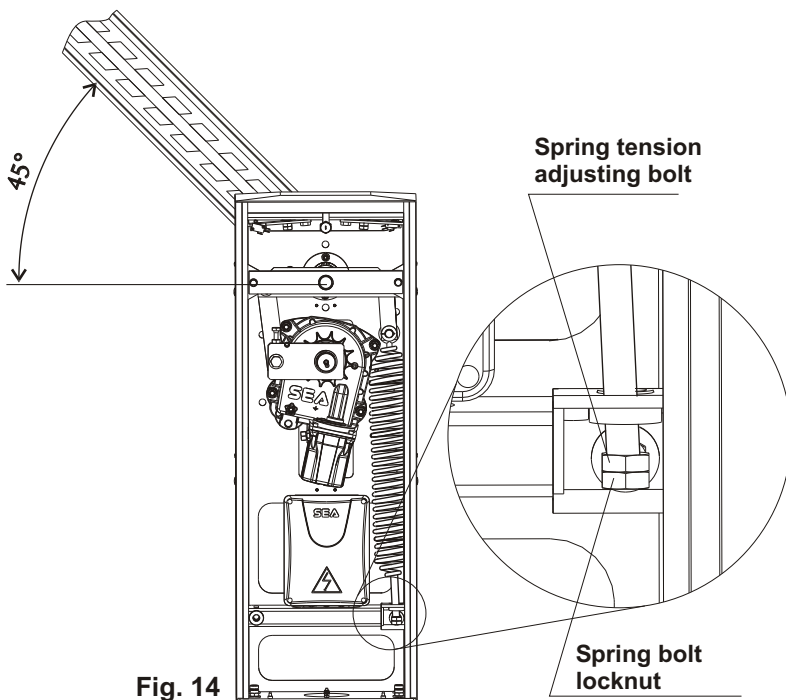

Fig. 14
- Place the beam at approx. 45° and execute the balancing with the nuts of Fig. 14.
- Tight or untight the spring adjusting bolt locknut so that the spring reaches a balance point with the beam at 45° (Fig. 14).